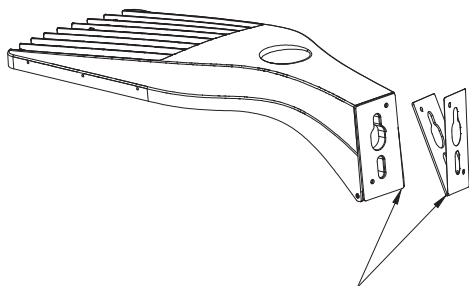

Fig 1
2. Stick it to the designated surface on the round pole mounting bracket (Fig 1).